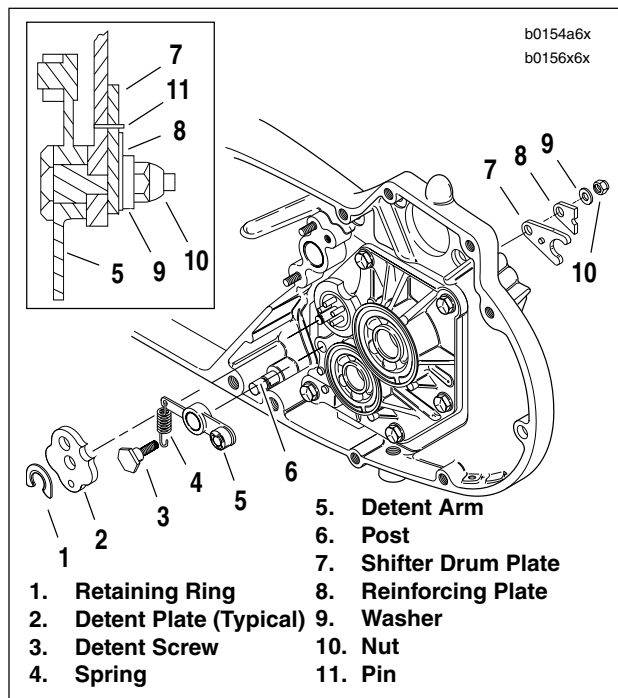

Figure 6-34. Detent Plate Mounting
See Figure 6-34. Detent plate (2) and retaining ring (1) are not installed at this time. These parts are installed during transmission installation after the final shifter pawl adjustment is made. See 6.13 TRANSMISSION INSTALLATION AND SHIFTER PAWL ADJUSTMENT.
- a. At the inside of the access door, place the shifter drum plate (7) in the groove of the drum shaft. See inset Figure 6-34.
- b. Correctly align reinforcement plate (8) with the pin pressed in the shifter drum plate (7).
- c. Insert detent screw (3) through detent arm (5), access door, shifter drum plate (7), reinforcing plate (8) and washer (9).
- d. Thread nut (10) on detent screw. Tighten nut to 13-17 ft-lbs (18-23 Nm).